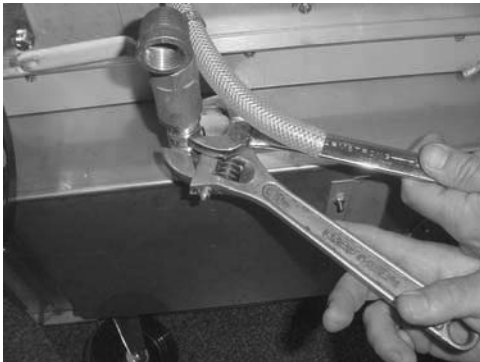

Figure 3-54
5. Using 2 wrenches, turn drain valve counterclockwise, while holding fitting behind it. Figure 3-54. Remove drain valve assembly from unit.